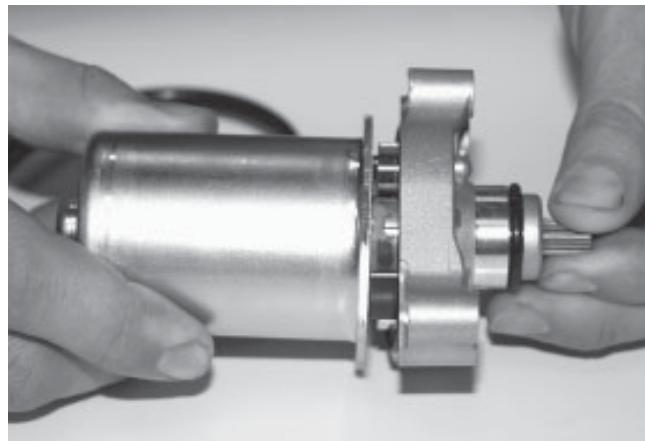

Fig. 62
- ⇒ Pull off the housing, see Fig. 62.